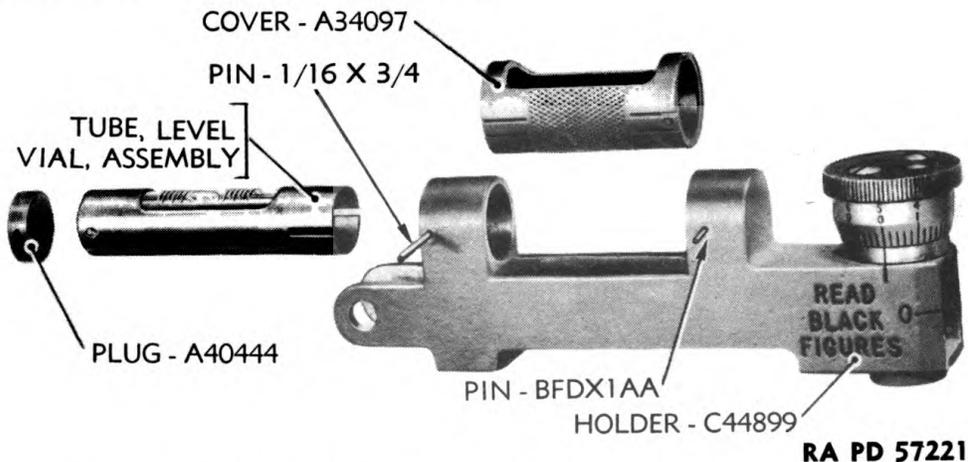
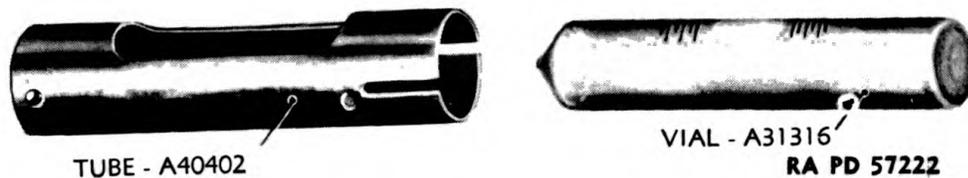
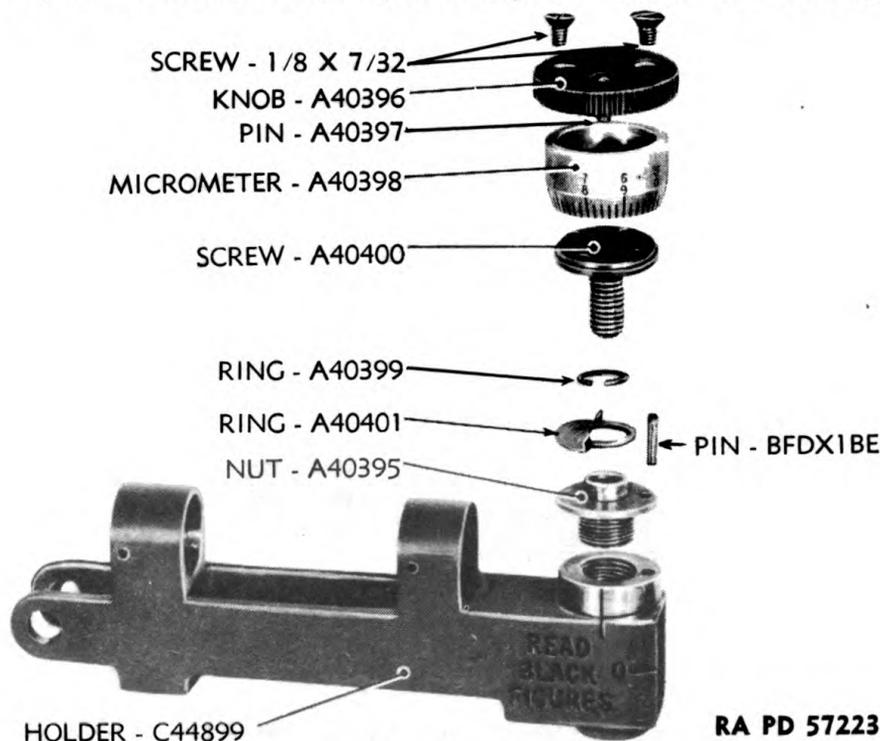

Figure 9—Gunner's Quadrant M1—Vial Tube Removed from Holder
Figure 10—Gunner's Quadrant M1—Level Vial Removed from Tube
Figure 11—Gunner's Quadrant M1—Micrometer Removed
(4) REMOVE LEVEL VIAL (fig. 9).
(e) Extreme care must be exercised in removing the level vial from the tube. The gypsum must be dug out very slowly and carefully. Avoid breaking the level vial tip off. Never cross the center of the gypsum; always dig around the edge nearest the tube. Use shim stock to dig out the remaining gypsum between the level vial and the tube. After all of the gypsum has been removed, push the level vial out of the tube (fig. 10).
(5) REMOVE MICROMETER GROUP (fig. 11).
c. **Install Micrometer Group (fig. 11).**
(1) Thread micrometer screw nut in position on level holder until the nut is tight and the pin holes are lined up.
(2) From the top of the level holder, drive pin BFDX1BE in position in lined up holes until $\frac{1}{16}$ inch extends from top of micrometer screw nut.
(3) Place micrometer stop ring with lips upward on micrometer screw nut, and lock in position with split ring.
(4) Apply one or two drops of OIL, lubricating, for aircraft instruments and machine guns, to the micrometer screw, and thread micrometer screw through micrometer screw nut until the black auxiliary index marks of the arm and holder are in line.
(5) Facing the black graduation side of the instrument, turn the stop ring so that the solid part of the ring is toward the black index and its lip hits the pin BFDX1BE.
(6) Select the hole on micrometer screw nearest the level vial, and turn micrometer screw (not more than one-eighth turn) until this hole and the hole directly opposite it are in a straight line with the level vial.
(7) Place micrometer A40398 and knob A40396 in position over micrometer screw A40400 so that pin A40397 in knob enters the hole nearest the level vial.
(8) Secure micrometer and knob in position with two screws. **NOTE:** Final adjustment of micrometer will be made after the gunner's quadrant is completely assembled.
d. **Install Level Vial (fig. 9 and fig. 10).**
(1) Thoroughly clean out level vial tube.
(2) Place level vial tube on flat leveled surface.
(3) Push level vial into position in level vial tube and shim with paper of desired thickness to secure level vial in leveled position.
(4) Set level vial in level vial tube with GYPSUM, calcined, Grade I, fine, mixed with water to form paste, and allow gypsum to dry.
(5) Hold level vial cover in position over level holder with the small projection on the inside of the cover toward the micrometer.